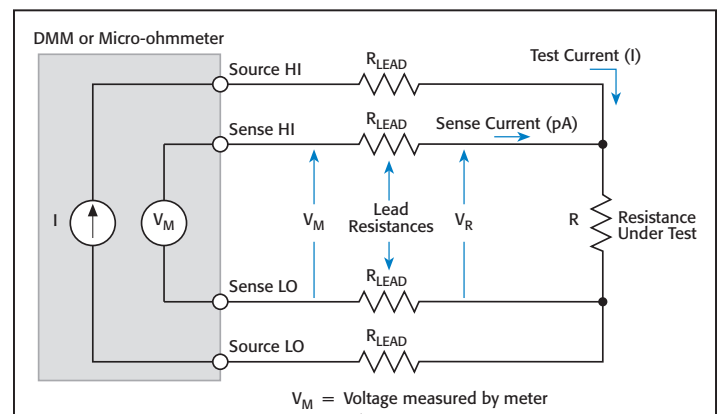

Figure 2. The effect of test lead resistance can be reduced using the four-wire (Kelvin) connection method.
Due to the limitations of the two-wire method, the four-wire (Kelvin) connection method shown in **Figure 2** is generally preferred for low resistance measurements because it reduces the effect of test lead resistance. These measurements can be made using a DMM, SourceMeter SMU instrument, or a separate current source and voltmeter. With this configuration, the test current (I) is forced through the test resistance (R) via one set of test leads, while the voltage (V_M) across the DUT is measured through a second set of leads (sense leads). Although some small current (typically less than 100pA) may flow through the sense leads, it is usually negligible and can generally be ignored for all practical purposes. The voltage drop across the sense leads is negligible, so the voltage measured by the meter (V_M) is essentially the same as the voltage (V_R) across the resistance (R). As a result, the resistance value can be determined much more accurately than with the two-wire method.